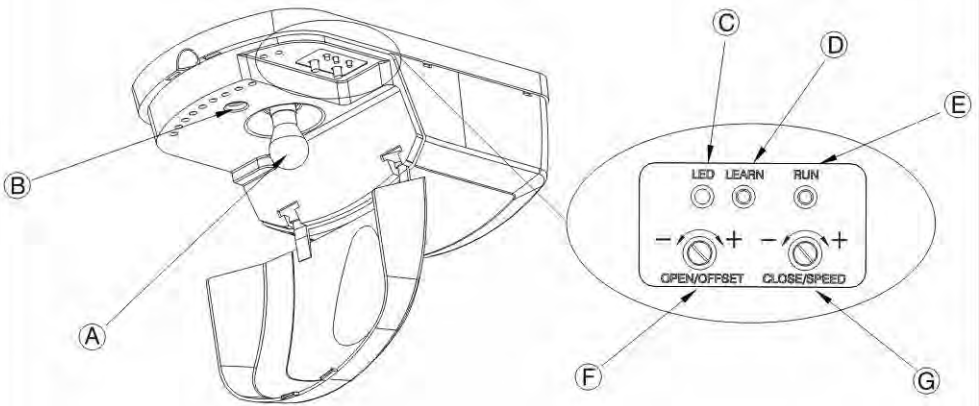

Fig 17
- Hinge open the Lamp Cover (Fig.17-A) to expose the adjustment controls
- With the garage door in the fully closed position - press the black "Run" Button (Fig.17-G) so that the garage door begins movement in the open direction
- As the garage door is opening slowly turn the (green) Open / Offset Adjustment Pin (Fig.17-G) in an anti-clockwise direction until the garage door stops
- Press the black "Run" Button (Fig.17-G) so that the garage door begins to open
- With the garage door in the fully open position, press the black "Run" Button (Fig.17-F) so that the garage door begins to close
- As the garage door is closing - slowly turn the (red) Close / Speed Adjustment Pin (Fig.17-F) in an anti-clockwise direction until the garage door stops and begins to Safety Reverse
- If the XTrac stops but does not reverse then turn the (red) Close / Speed Adjustment Pin five degrees in an anti-clockwise direction. (Fig.17-F)
- Will display green when power supply is active (Fig.17-C)
- In the event of prolonged power outage the XTrac will automatically shut down (when battery voltage drops below 23 volts) in order to conserve remaining voltage - LED Indicator (Fig.17-C) will extinguish and the XTrac will cease to function
- iii. remove the Control Box cover Lock Screw point (Fig.17-B) Note: the Control Box Cover can be removed once the head of the screw is protruding by approx 5mm.
- Hinge open the Courtesy Lamp Cover to expose the bulb (Fig.17-A)
- i. hinge open the Courtesy Lamp Cover to expose the "Learn" Button (Fig.17).
- iii. momentarily press the "Learn" Button (Fig.17-D) – LED Indicator will glow solid (Fig.17-C).
- ii. momentarily press the "Learn" Button (Fig.17-D) – LED Indicator (Fig.17-C) will glow solid.
- The “Learn Button” (Fig. 17 - D) is located within the Lamp Cover adjacent to the “Learn LED” and serves to initiate the functions as described in the following table:
- The LED Indicator (Fig.17-C) is located under the Courtesy Lamp Cover and serves to indicate the functions as described in the following tables;
The black "Run" Button (Fig.17-E) is located under the Lamp cover and serves to initiate the functions as described in the following table;